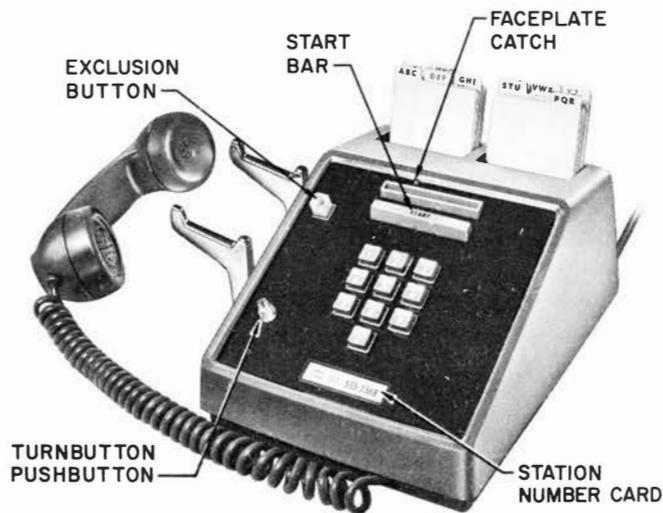

Fig. 1 - 1660-Type Telephone Set
1.02 The 1660-type telephone set is equivalent to the 660A1 telephone set except it has a TOUCH-TONE dial (Fig. 1 and 2).
2.09 The exclusion feature, when provided, is actuated by pulling up on the exclusion button at top left of faceplate (Fig. 1). Exclusion is cancelled when handset is restored.
2.10 A turnbutton-pushbutton switch assembly is supplied in the 1660A3 and 1660A4 telephone sets (Fig 1). The switch can be used for 2-line pick-up, extension or ringer cutoff, and signaling.
- (1) Place KS-16750,L1 releaser at edge of faceplate catch (Fig. 1).
- (2) Push catch toward rear of set until releaser hits notched portion of faceplate.
- (3) Turn point of releaser under faceplate and raise faceplate.
4.02 Slide number card behind number card retainer into proper position (Fig. 1).